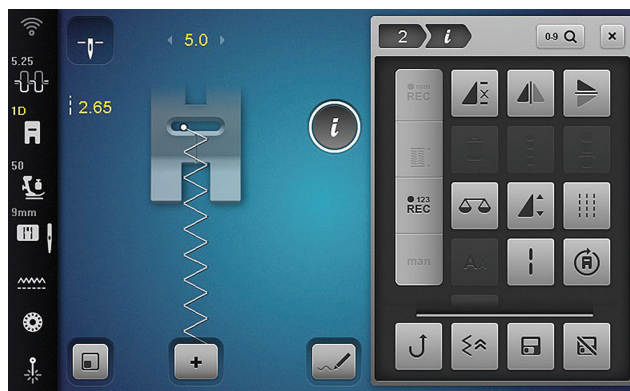

Fig. 17
2. Adjust as desired (Fig. 17).